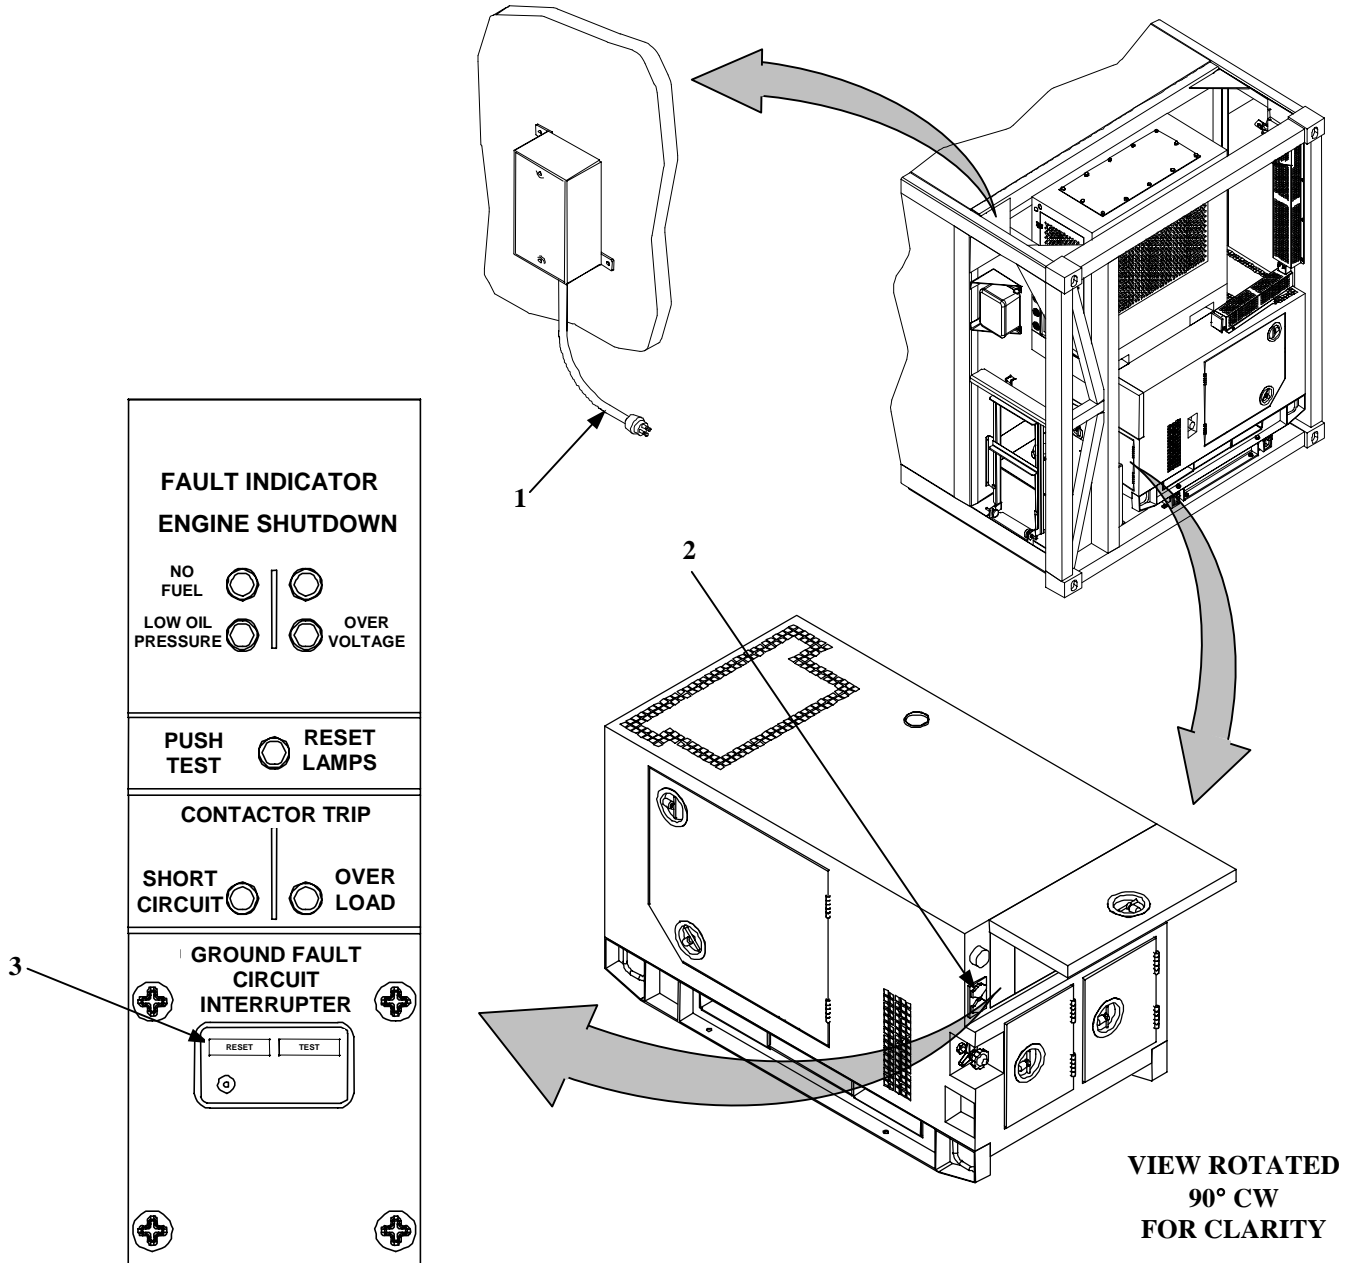

Figure 5. Light Cable and Ground Fault Interrupt Circuit Breaker
2. Connect interior light cable (1, Figure 5) to 110 VAC receptacle (2) on generator set.
3. Verify the Ground Fault Interrupt circuit breaker (3) has been reset.